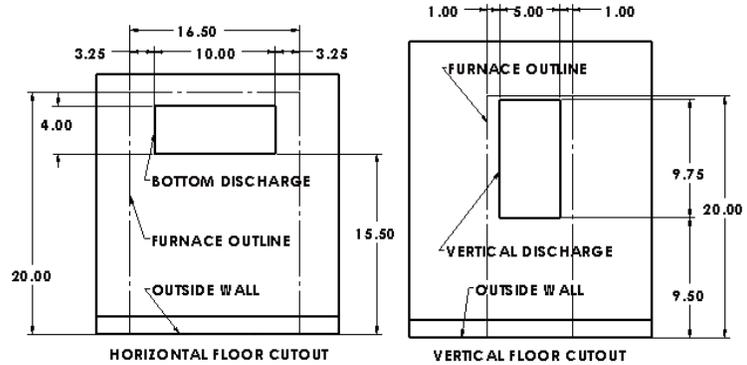

Figure 6
- Units can be installed as bottom or vertical bottom discharge systems. See figure 6 for cutout location and sizes.
5. Position gasket on plenum over hole opening see Figure 6.